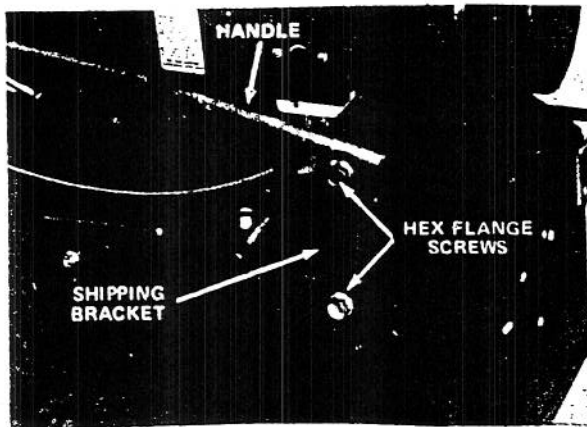

Figure 1
3. Remove hex flange screws securing handles to shipping brackets (Fig. 1). Also, remove hex flange screws securing shipping brackets to traction unit side plates (Fig. 1). Discard shipping brackets.